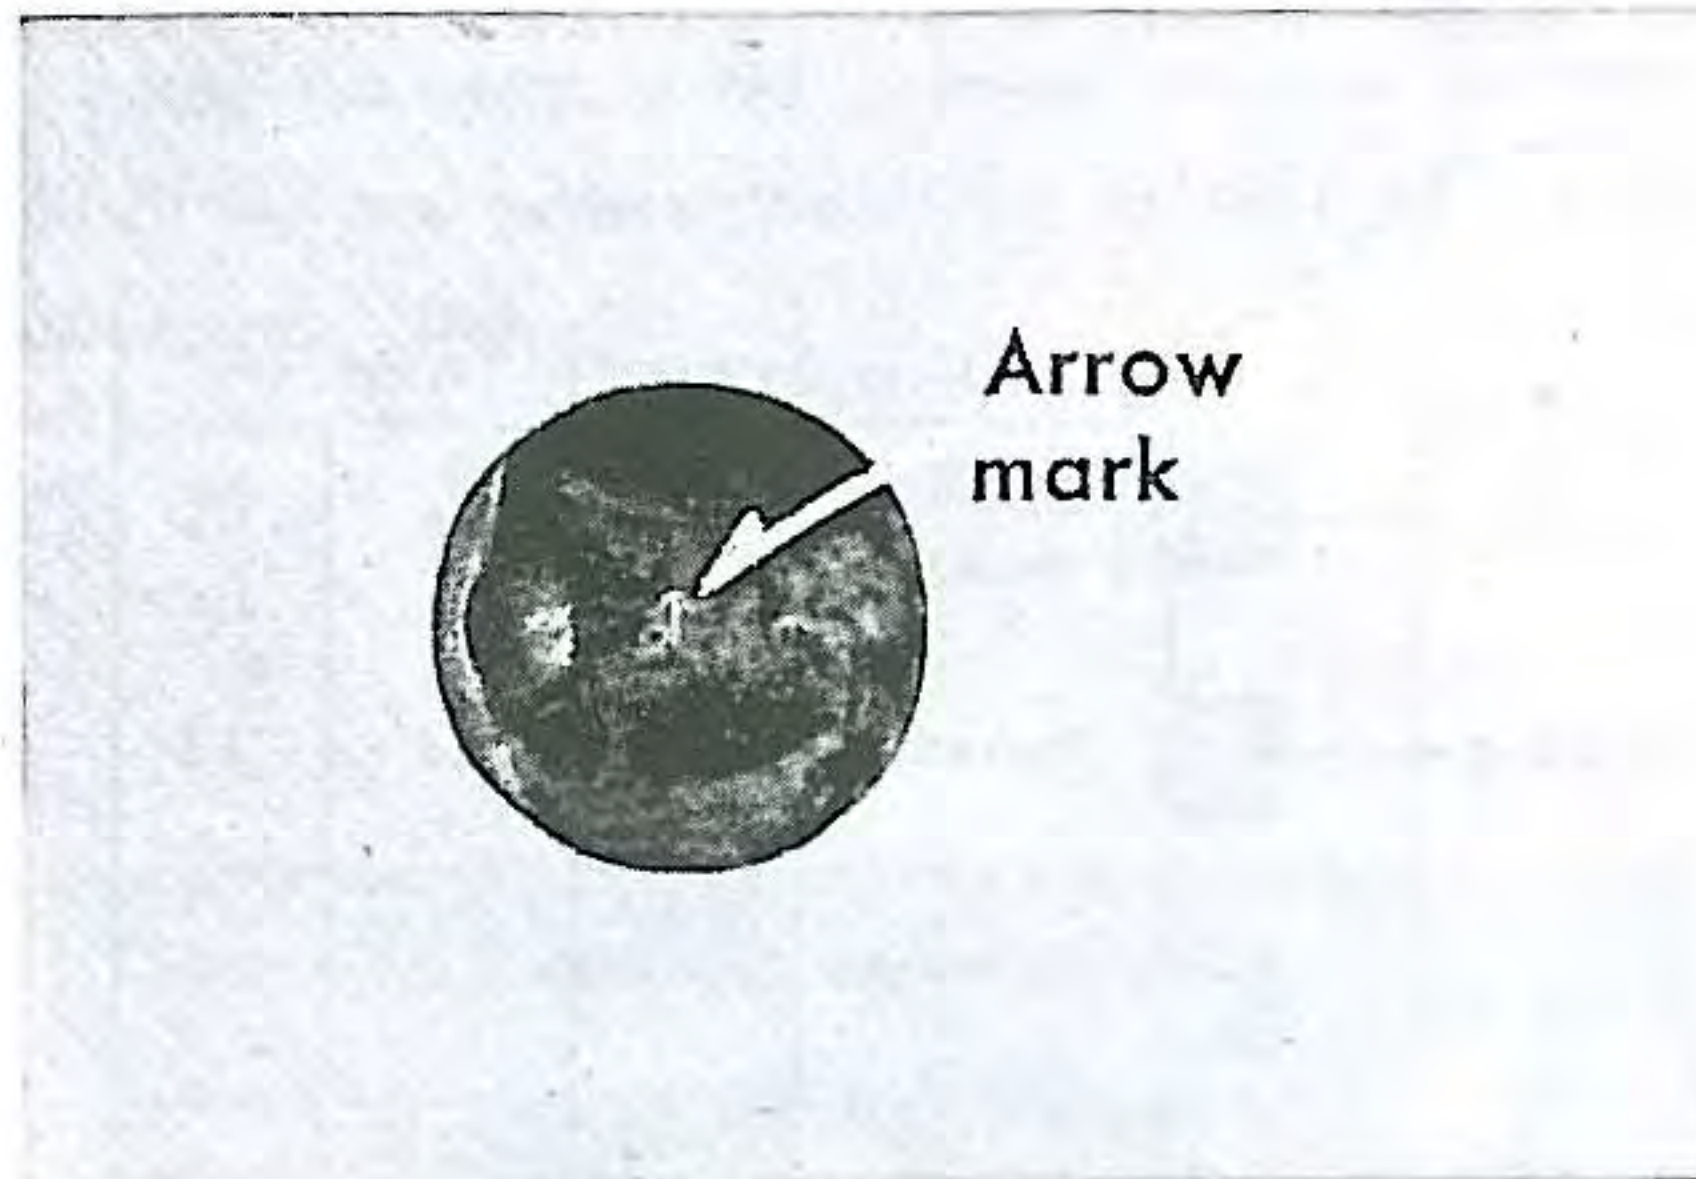

Fig. 60. Top view of piston
- (1) Fit the piston rings into the correct grooves on the piston. It is best to use a ring expander. Do not fit the rings in the wrong groove or upside-down.
- (2) Fix a circlip on one end of each piston pin. Insert the piston pin through the piston and connecting rod and fix with a circlip on the other end of the piston pin. The piston pins should be installed from the right side of the left piston and the left side of the right piston. Be sure the piston is fitted with the arrow mark on the crown pointing forward. (Fig. 60)